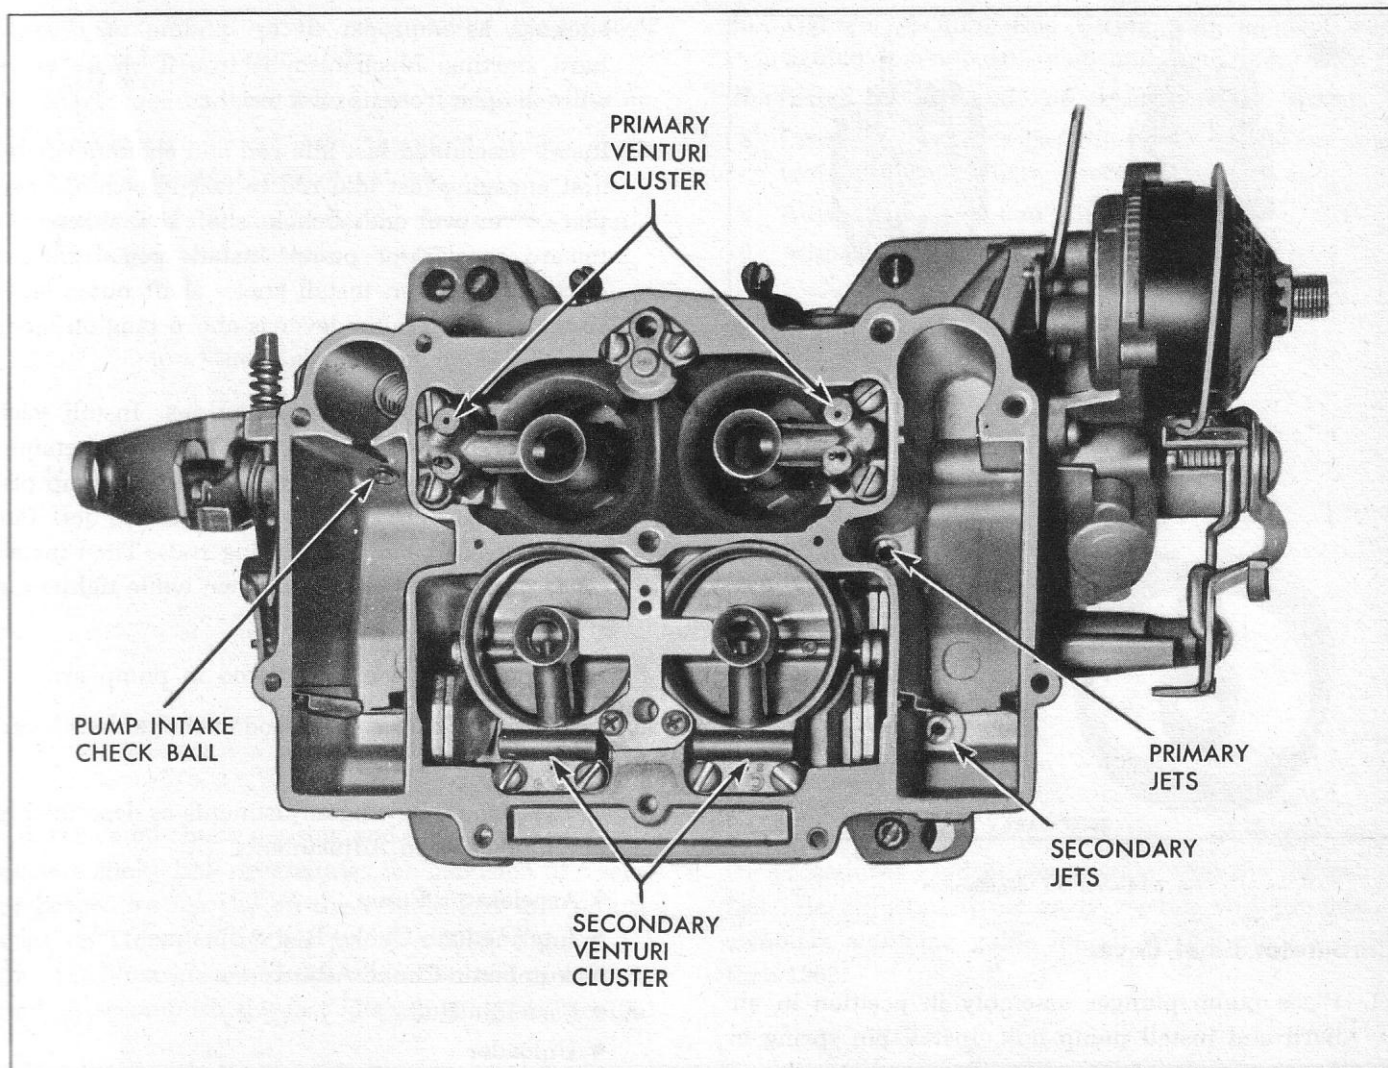

Fig. 112—Body Components
5. Install pump intake check ball and ball seat assembly with a new gasket (fig. 112). Install primary and secondary metering jets and tighten securely.